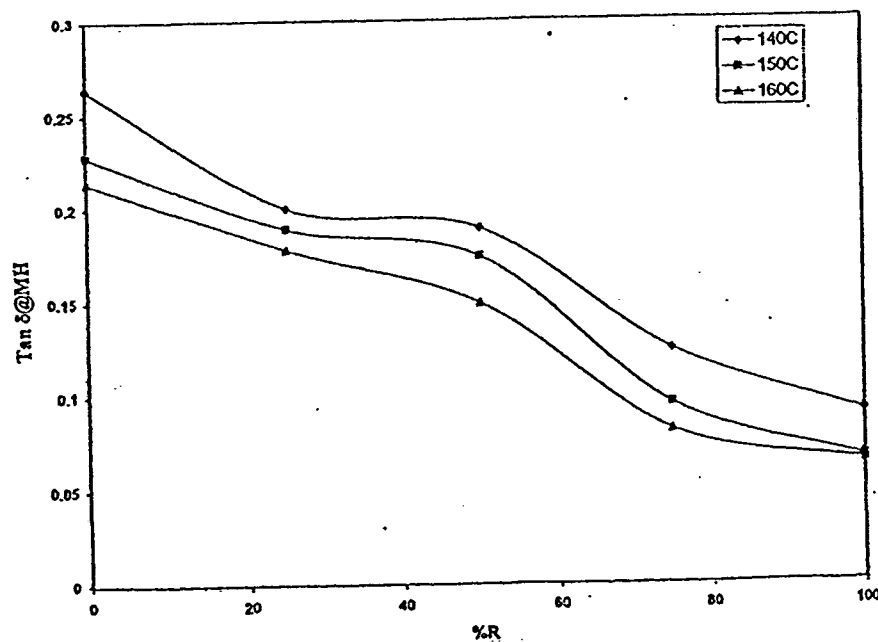

Figure 3: The relationship between  $\tan \delta$  at MH and ENR 50 composition (%R) for various SBR/ENR 50 blends at different curing temperatures.
- [b] Figure 3 shows the relationship between  $\tan \delta @ MH$  and ENR 50 composition (%R) for various SBR / ENR 50 blends at different curing temperatures. Explain the results obtained.